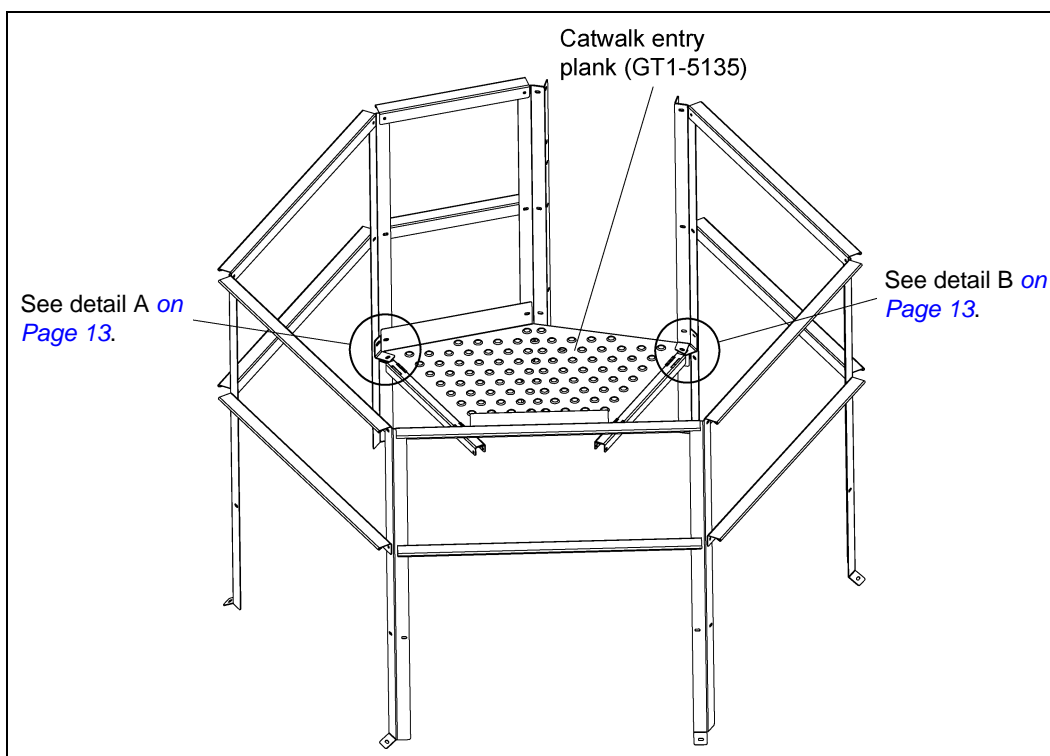
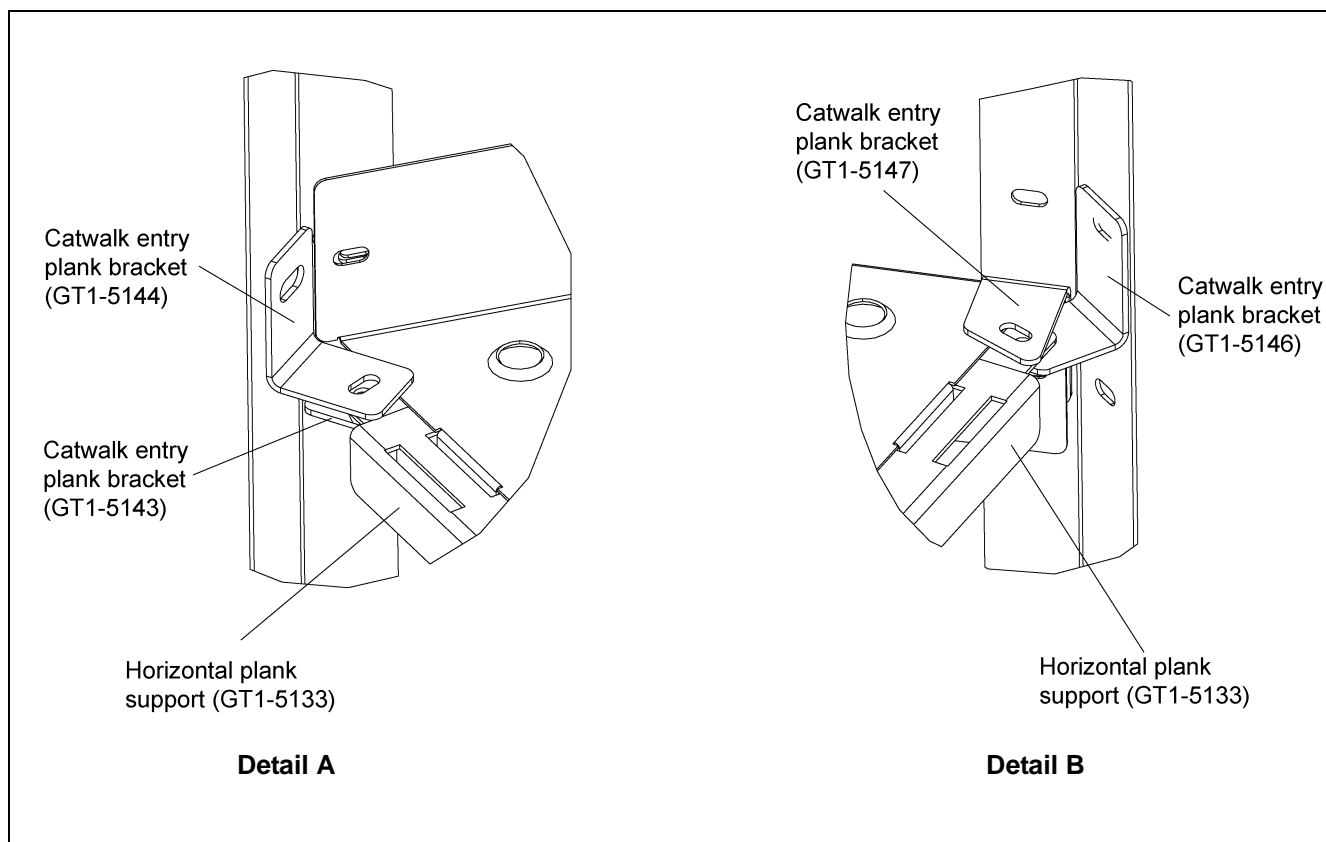

Figure 3H
Figure 3I
7. Assemble catwalk entry plank (GT1-5135), brackets (GT1-5146, GT1-5147, GT1-5144, GT1-5143), horizontal plank supports (GT1-5133) using 5/16" hardware. *(See Figure 3H below and Figure 3I on Page 13.)*